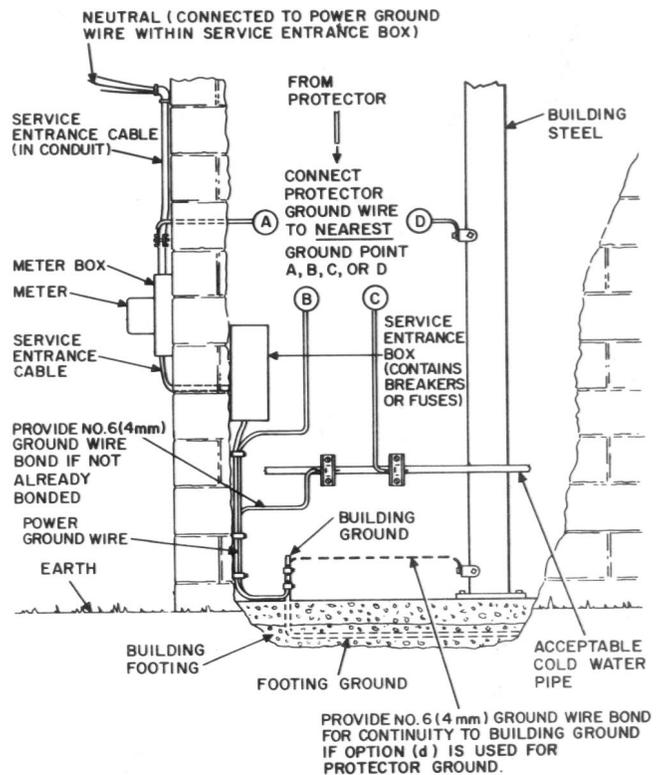

Fig. 46—Acceptable Water System or Building Ground (Power Service Grounded to Footing Ground)
- 6.05** Station protectors installed at locations where the power is grounded to a concrete encased electrode or to grounded building steel should be grounded as shown in Fig. 46 and 47.